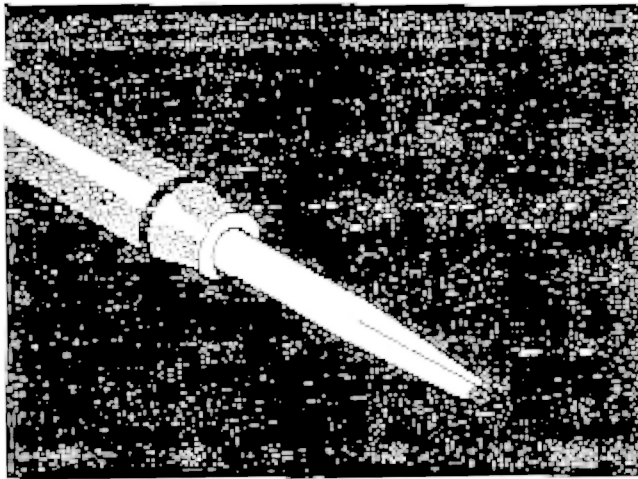

Fig. 4-1. Soldering iron tip properly shaped and tinned.
are installing or removing parts from the strips, Fig. 4-1 will show you the correct shape for the tip of the soldering iron. Be sure to file smooth all surfaces of the iron which will be tinned. This prevents solder from building up on rough spots where it will quickly oxidize.
2. Prepare the tip of the iron as shown in Fig. 4-1.